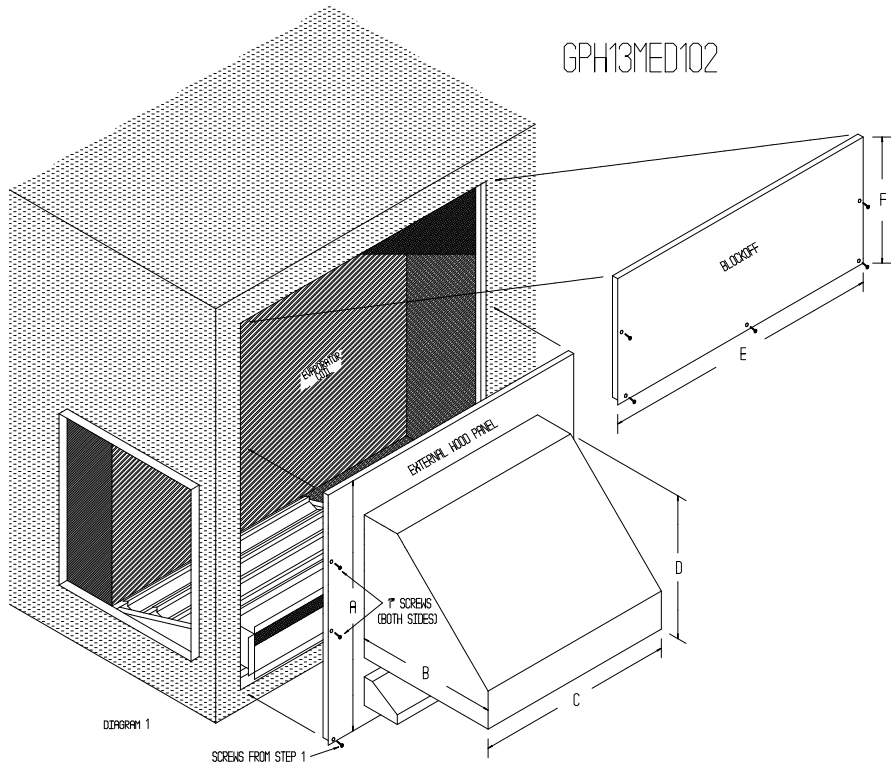

Figure 1
7. Attach the external hood/damper assembly to the side of the unit using screws removed in step 3. (Figure 1)